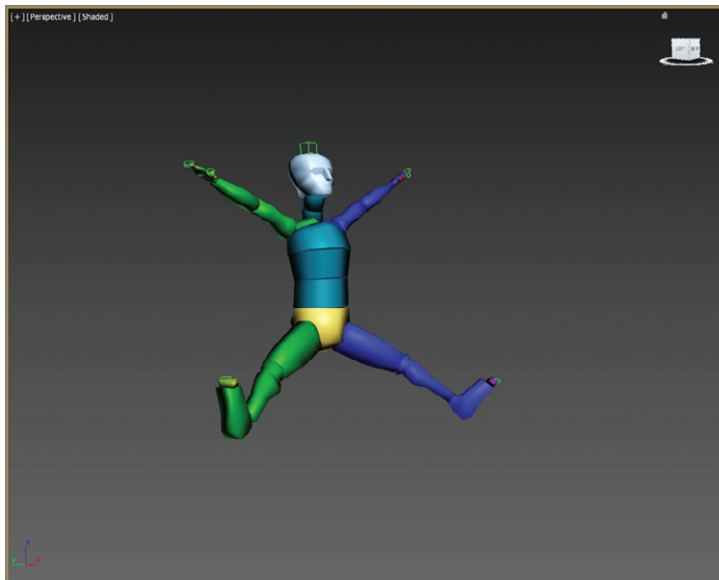

FIGURE 13.13 Position your biped in mid-jump.
13. Rotate the biped's components into positions you like, such as the split shown in Figure 13.13.